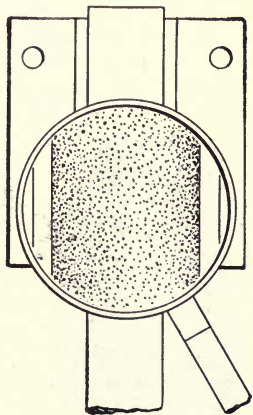

FIG. 34.—Metal Under a Magnifying Glass. Imaginative view of a shaft showing microscopic roughness that causes friction.
**50. The Effect of Friction.**—Thus far we have considered the relations of speed, force, and resistance from a somewhat theoretical standpoint; in actual practice a deduction has to be made from the advantage apparently gained because of the resistance of the machine to free motion. This resistance is due to the rough surfaces of the bearings of the machine, although to the naked eye these bearings may appear perfectly smooth. When polished surfaces are inspected or examined under the microscope (Fig. 34) they are seen to have many inequalities and to be comparatively rough. These inequalities fit into the hollows of the opposite surface, out of which it requires some force to lift or